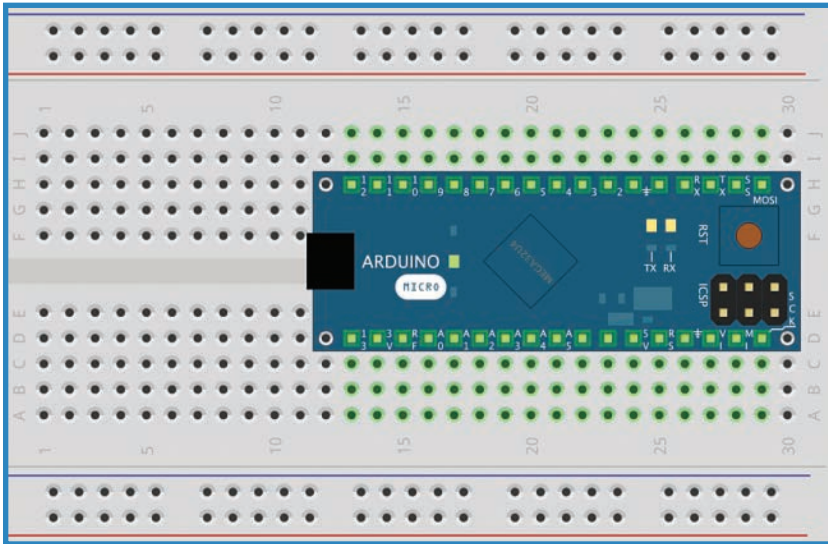

FIGURE 5.14 Insert the pins of your Micro into the breadboard.
2. Plug your Arduino into the breadboard as shown in Figure 5.14.